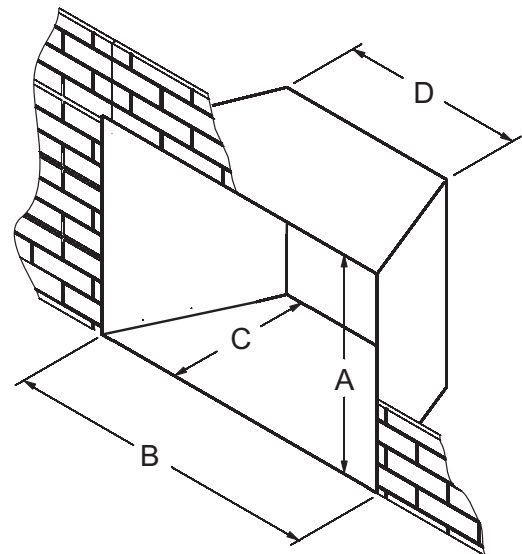

Figure 1
2. Minimum fireplace opening requirements are shown in **Figure 1** of this installation manual. The firebrick (refractory), glass doors, screen rails, screen mesh and log grates can be removed from a factory built fireplace in order to gain minimum gas insert opening requirements prior to installing the gas fireplace insert.